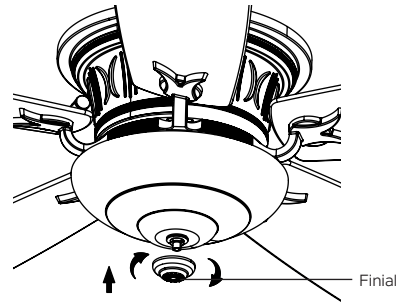

Fig. 25
**Step 4.** Screw the finial to the threaded rod and securely tighten. (Fig.25)
**Step 2.** Install the metal plate and “CoolTouch” wall plate to the existing wall outlet box with 4 screws provided. Then place the two plastic plugs into the wall plate. (Fig. 25)